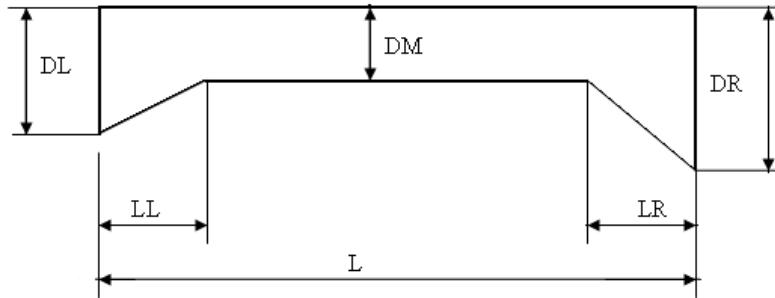

Figure 4.28
The left and right haunches of the non-prismatic members may be of type linear, parabolic or straight. You must define the geometry (Figure 4.28) including middle depth (DM), left depth (DL), right depth (DR), width, left length ratio (LL / L), right length ratio (LR / L). Each of the selected prismatic members will be exploded into multiple prismatic members to approximate the non-prismatic member's behavior. Appropriate member sections will be automatically added and assigned in the model. Existing loads on the selected prismatic members will be assigned to the new members appropriately.